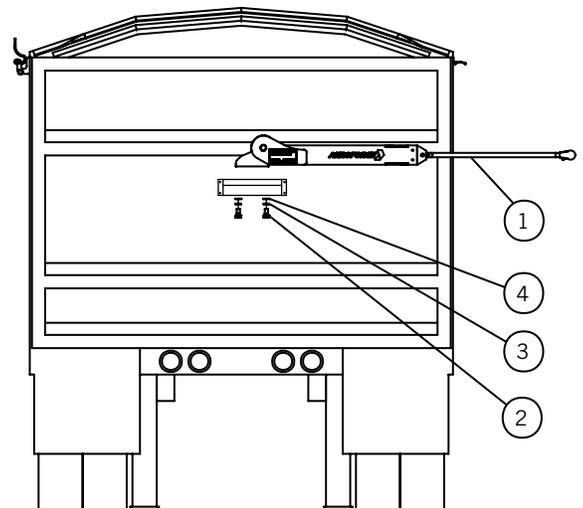

Figure 30-2
- 1) **Figure 30-2.** Using the supplied hardware, mount the rear arm assembly to the mounting bracket located on the rear of the trailer.